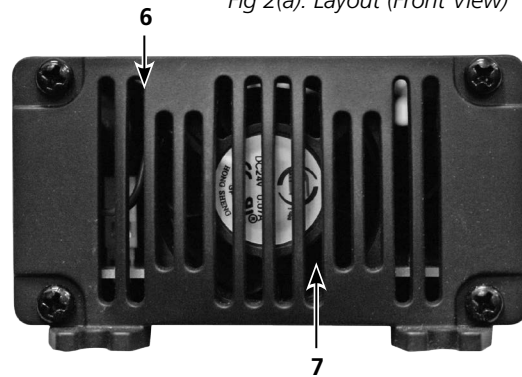

Fig 2(b). Layout (Back View)
**LEGEND [For Figs. 2(a) and 2(b)]**